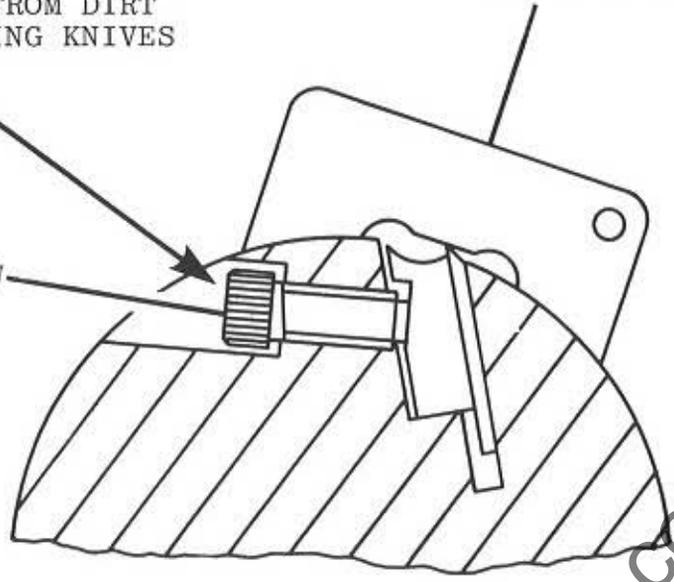

FIG. 14
8. When both settings are correct, re-lock the 7 socket head locking screws, securing cutter in block. See FIG. 14.